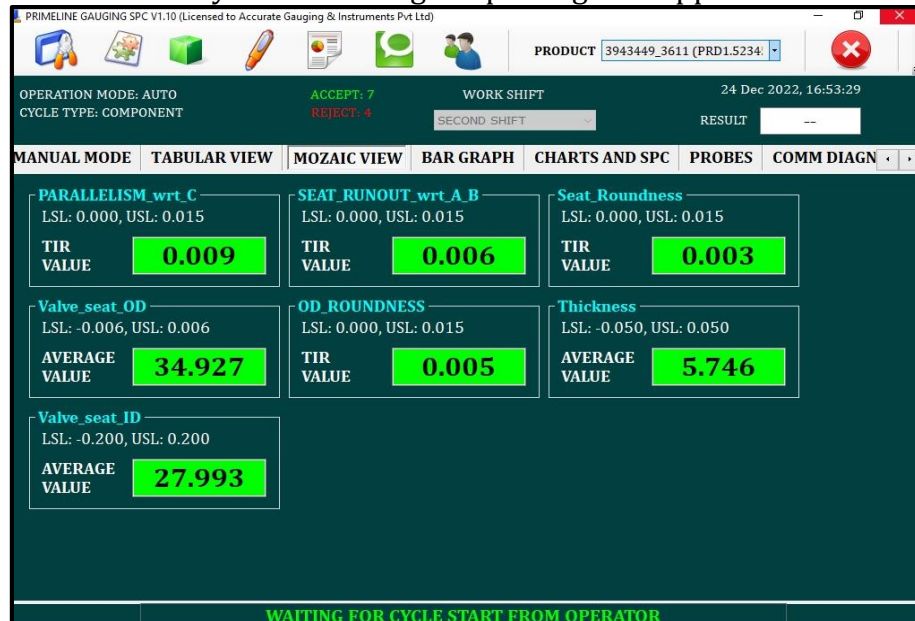

Figure 5
- Click on the Mosaic mode tab. The following window can be seen in figure 5. In the mosaic tab, the parameter, TIR or average value, lower limit, upper limit and result of the selected product will be displayed.